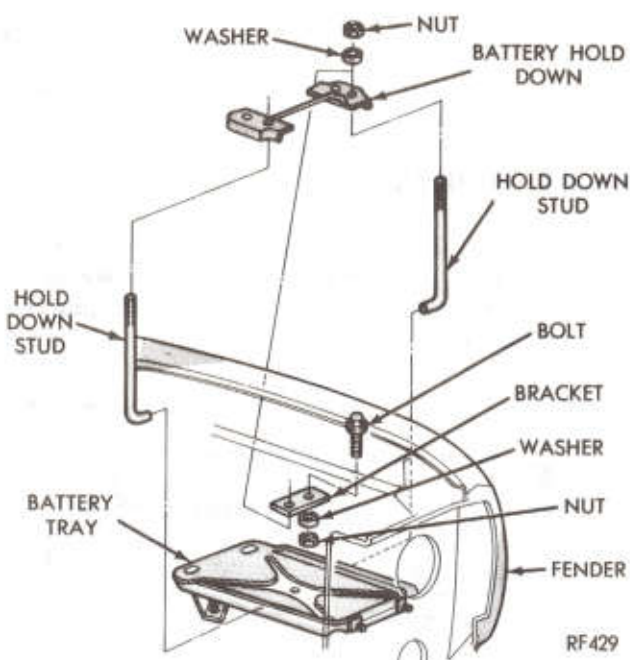

Fig. 5—Battery Tray
(5) Inspect battery case and cover for cracks or leakage. If cracks or leakage is present battery must be replaced.
(6) Inspect battery tray for damage caused by loss of acid from battery. If acid damage is present it will be necessary to clean area with same solution described in Step (4) (Fig. 5).